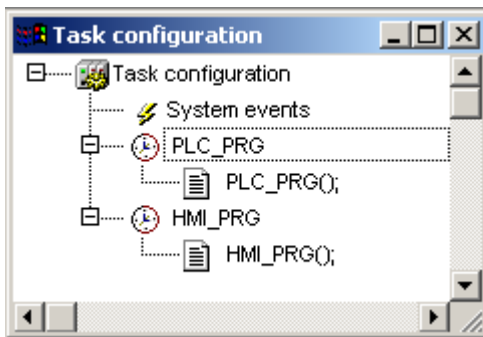

Figure 41, Task Configuration
- The Task Attributes window will change to look like Figure 41.